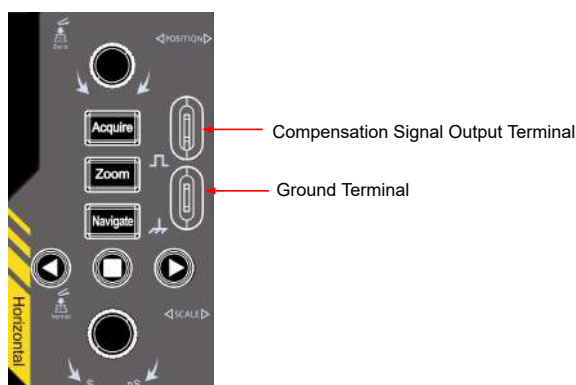

Figure 4.12 Use the Compensation Signal
2. Connect the ground alligator clip of the probe to the "Ground Terminal" as shown in Figure 4.12.
3. Use the probe to connect the input terminal of CH1 of the oscilloscope and the "Compensation Signal Output Terminal" of the probe, as shown in Figure 4.12.